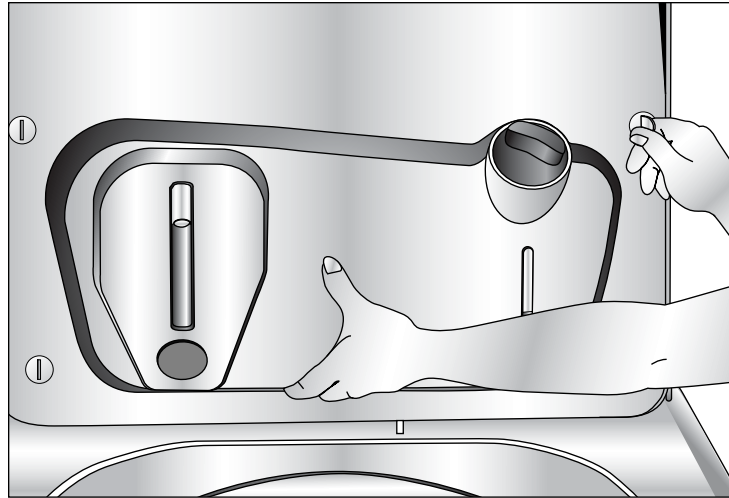

Figure 4
1. Support the bottom of the dispenser with one hand. Use a quarter and turn four slotted screws counter clockwise 1/4 turn (figure 4).